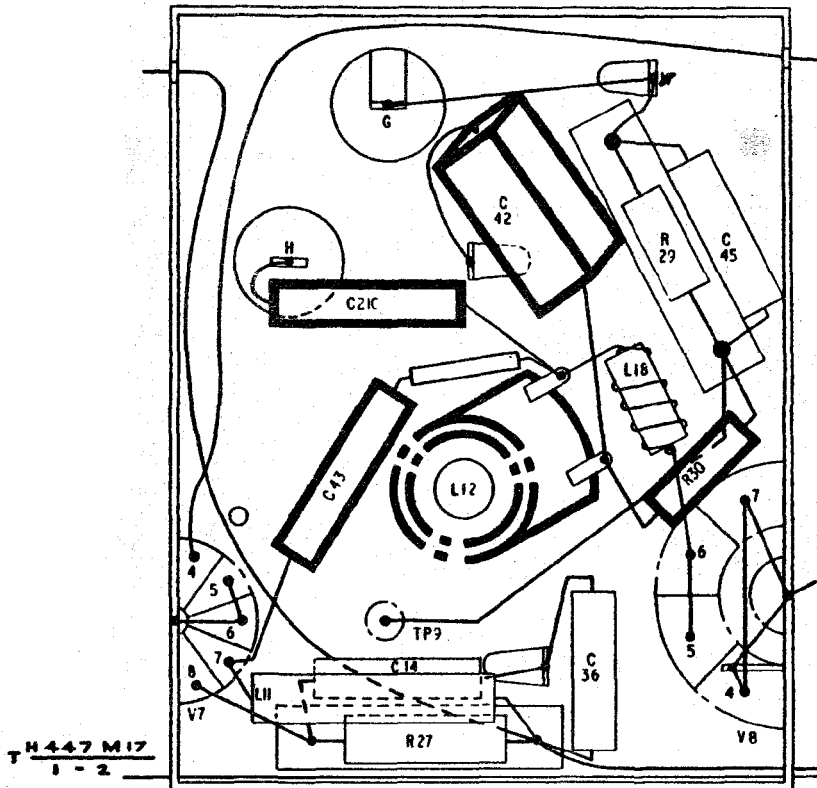

Fig 2 - Modified component layout
- b. Fig 2, Modified component layout
- (1) Top right-hand corner, adjacent earth tag
g. Resolder the free leads of inductor L18, capacitor C42, and capacitor C43, to the appropriate tag of the newly fitted inductor L12, positioning and connecting them as shown at Fig 2.
h. Resolder and position resistor R30 (retained in d.(5)) between the appropriate tag of L12 and the junction of resistor R29 and capacitor C45, as shown in Fig 2.
j. Solder the 1500pF capacitor (5910-99-012-4704) supplied, between the stator tag of capacitor gang section C3E and the tag of L12 to which L18 and C43 are soldered (Fig 2). This capacitor becomes C210.
in Fig 2